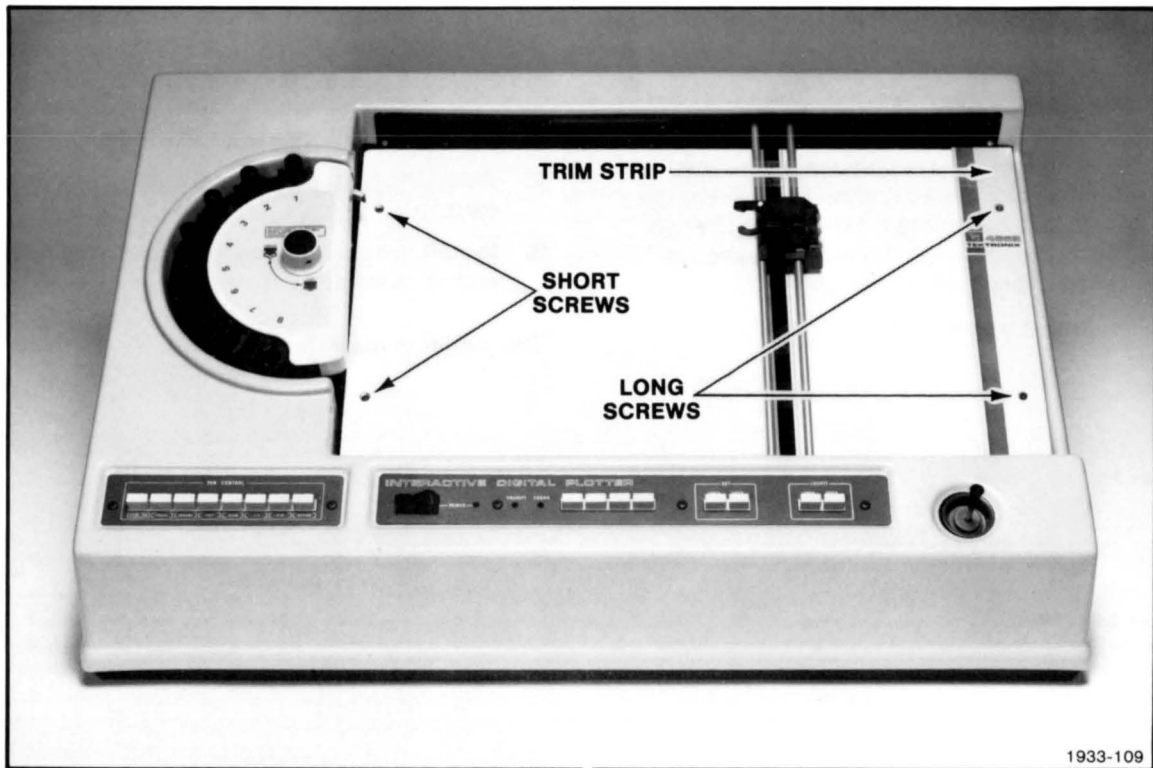

Figure G-5. Platen and Trim Strip Attaching Screws (Option 31).
12. **Remove** the four hex-socket cap screws (1/16" socket) holding the platen (see Figure G-5).
4. **Verify** that the insulation strip is in place over the wire connection on the top surface of the platen and place the trim strip in position on the right edge of the platen (see Figure G-5).
5. **Install** (but do not tighten) the four hex-socket cap screws that hold the platen to the frame. Notice that the two longer screws go through the trim strip and the platen on the right side (see Figure G-5).